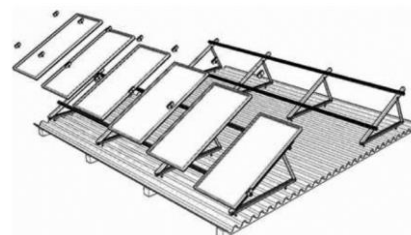

Fig 4.3.1E Complete array of panels with A-Frames
V. Repeat until end of row, as shown in Fig 4.3.1E. This image illustrates A-Frames only.